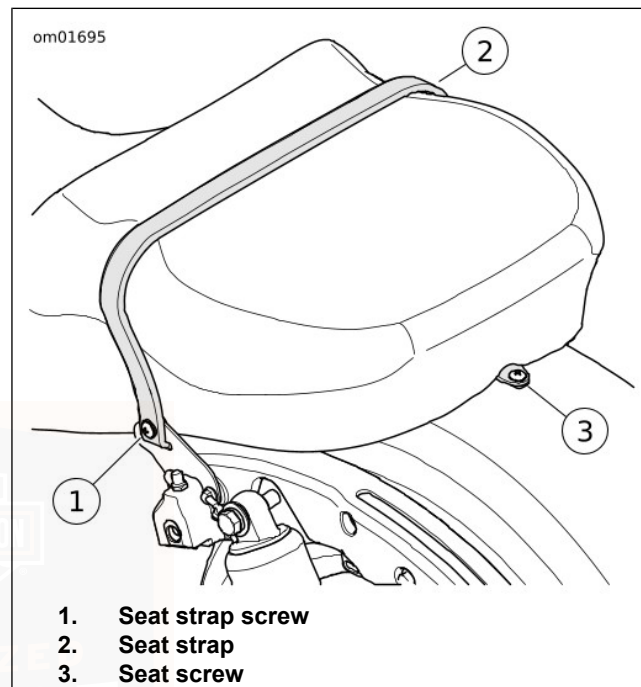

Figure 103. Seat Strap Screw
3. See Figure 103. Remove screw to release seat strap from bracket.
2. See Figure 103. Secure seat bracket to rear fender with screw. Tighten.
4. See Figure 103. Insert strap in slot on seat strap bracket.